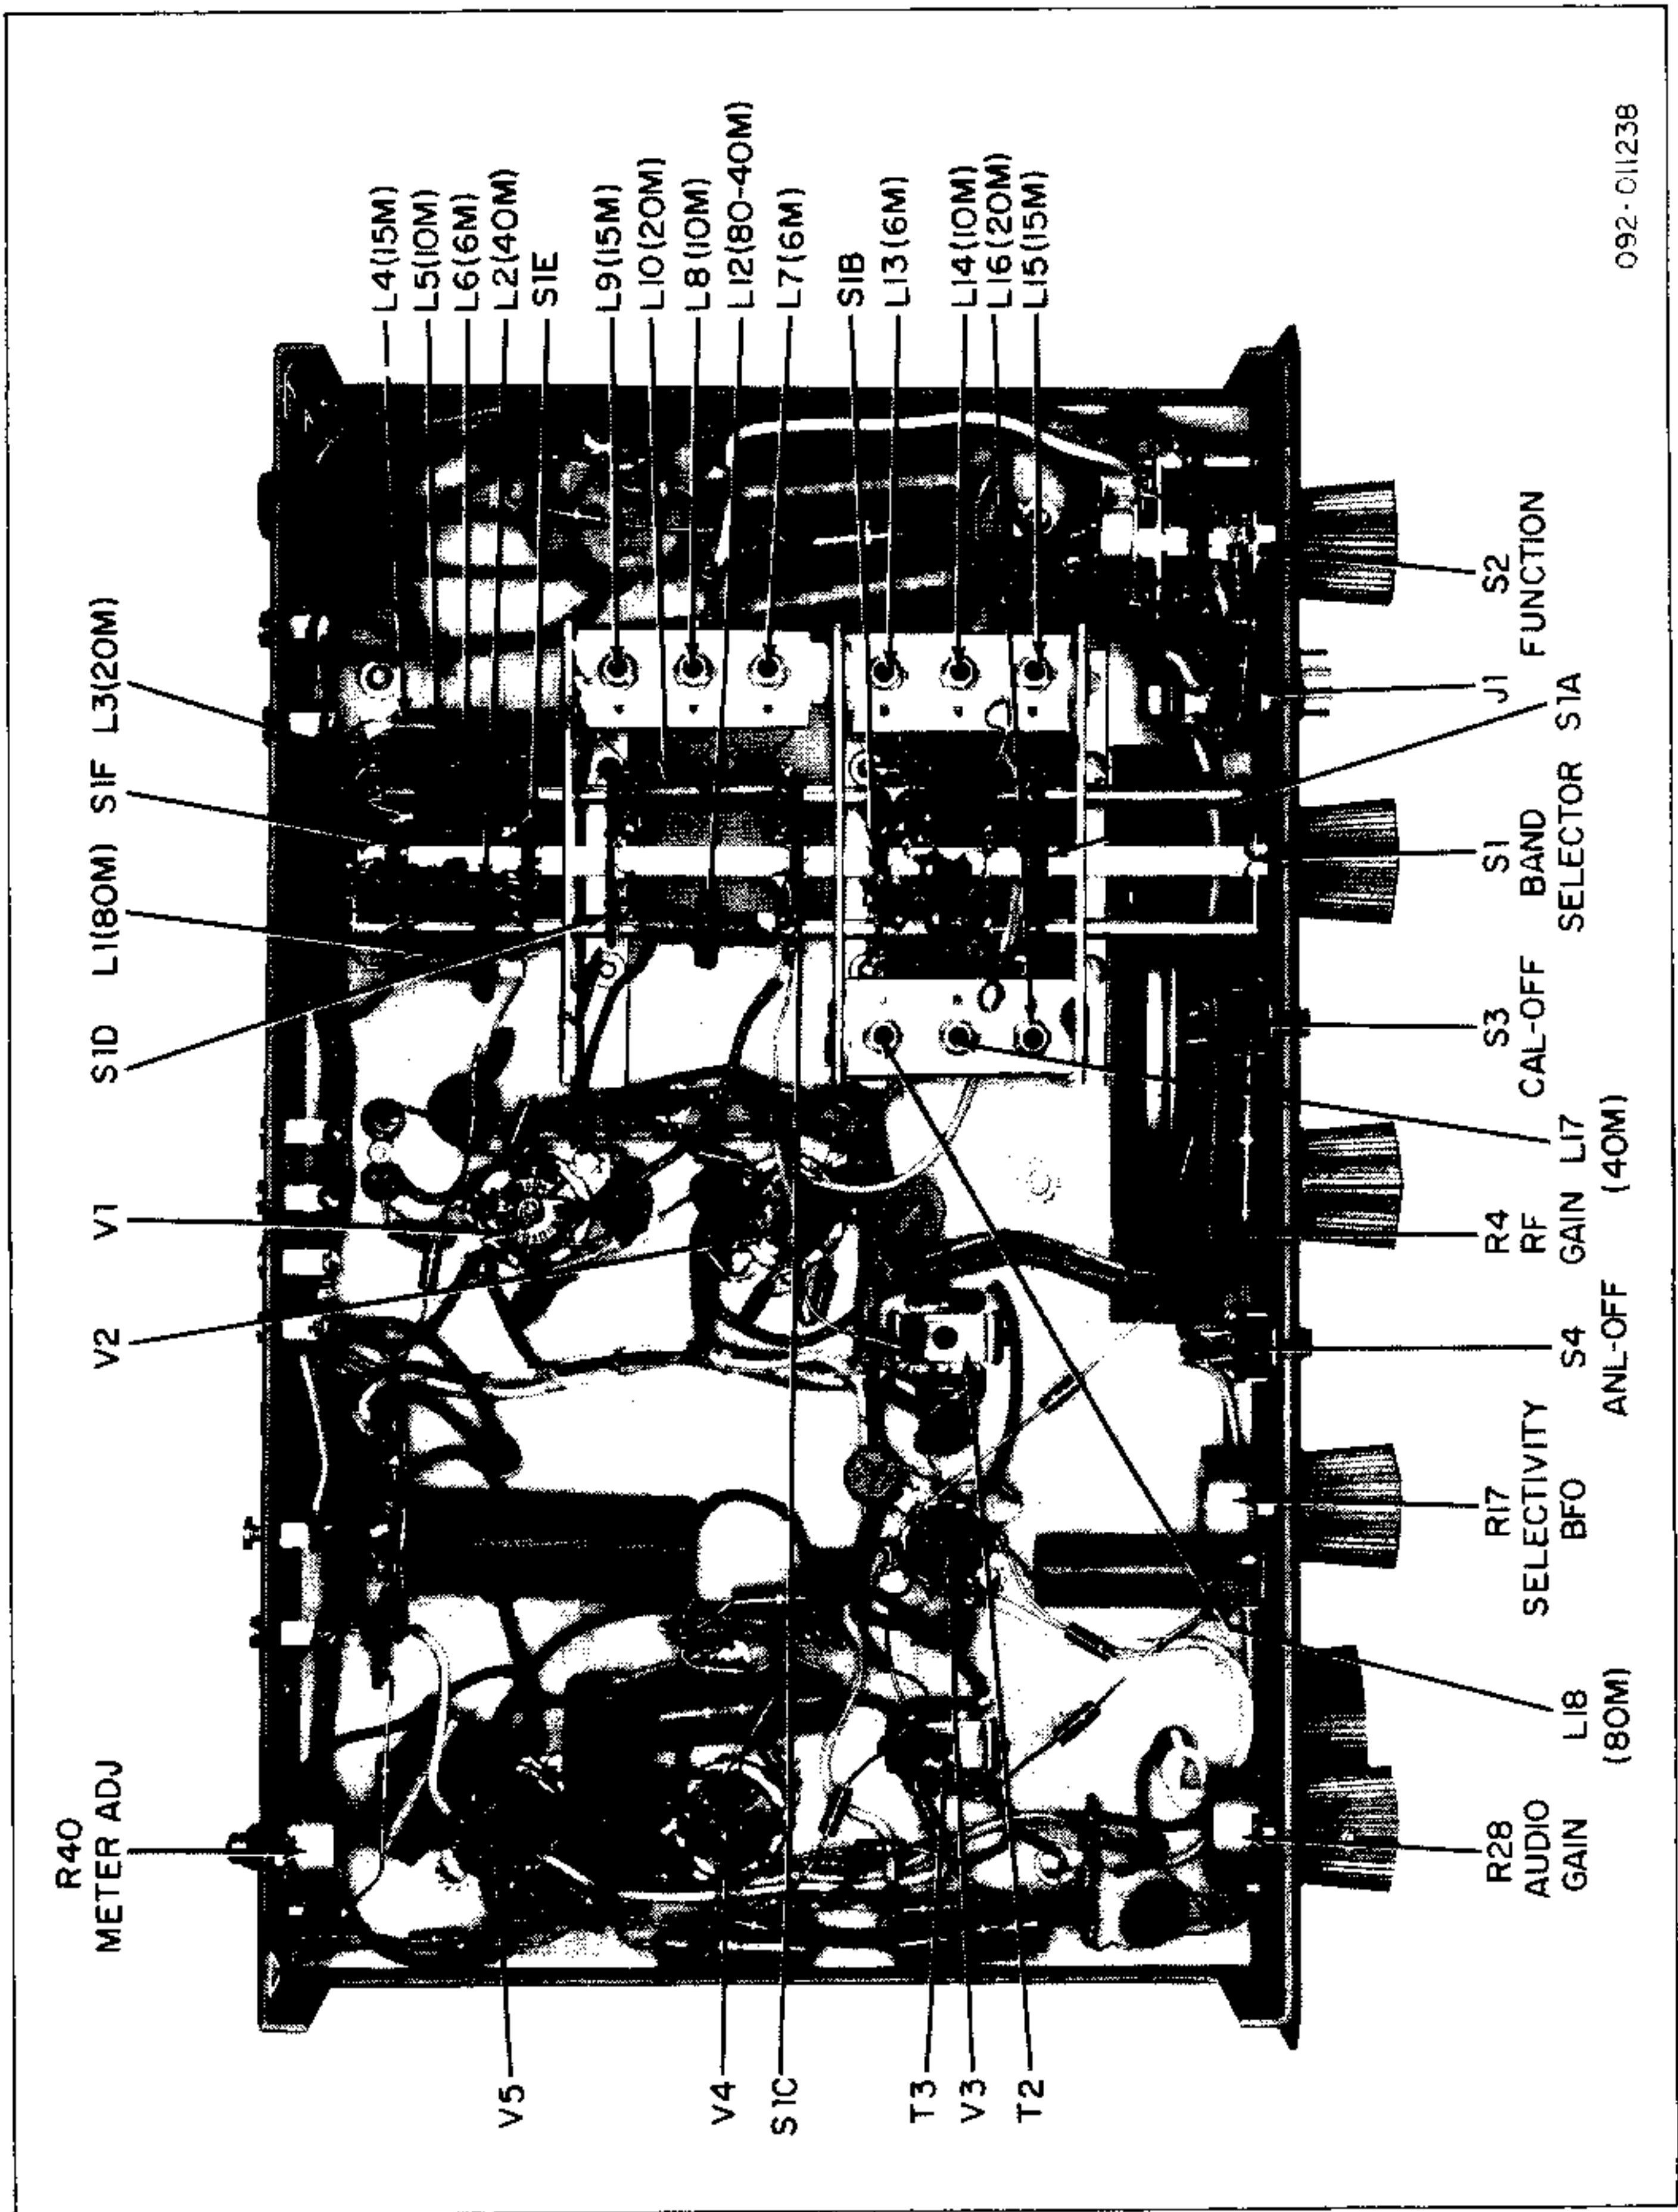

Figure 9. Bottom View Alignments.
on the rear of the chassis (see figure 9) until the carrier level meter reads "0".
5. Set the RF GAIN control fully clockwise when adjusting the 15, 10 and 6 meter oscillator coils. Refer to Figure 9 for location of the oscillator coils. All oscillator coils should be adjusted for the loudest zero-beat signal.